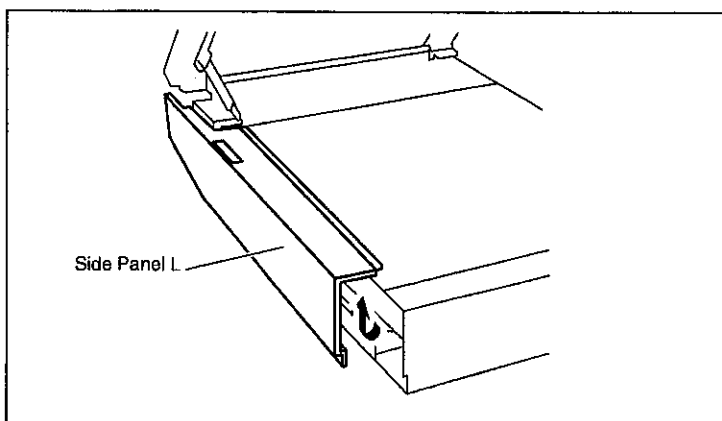

Fig. 8-3
- 4) Lift Side Panel L up, as shown in Fig. 8-3.